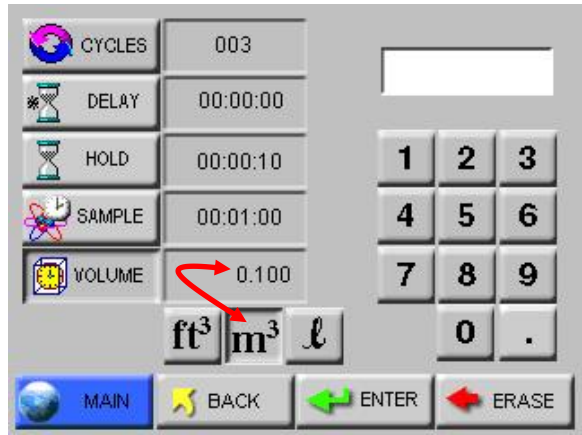

Figure 6-29 Changing Sample Volume Unit of Measure
- SAMPLE VOLUME:** Instead of selecting a specific Sample Time, the instrument can be set to measure a specific Sample Volume in cubic feet (ft³), cubic meters (m³) or liters (l). When this is set, the corresponding Sample Volume will automatically be set. See Figure 6-29.